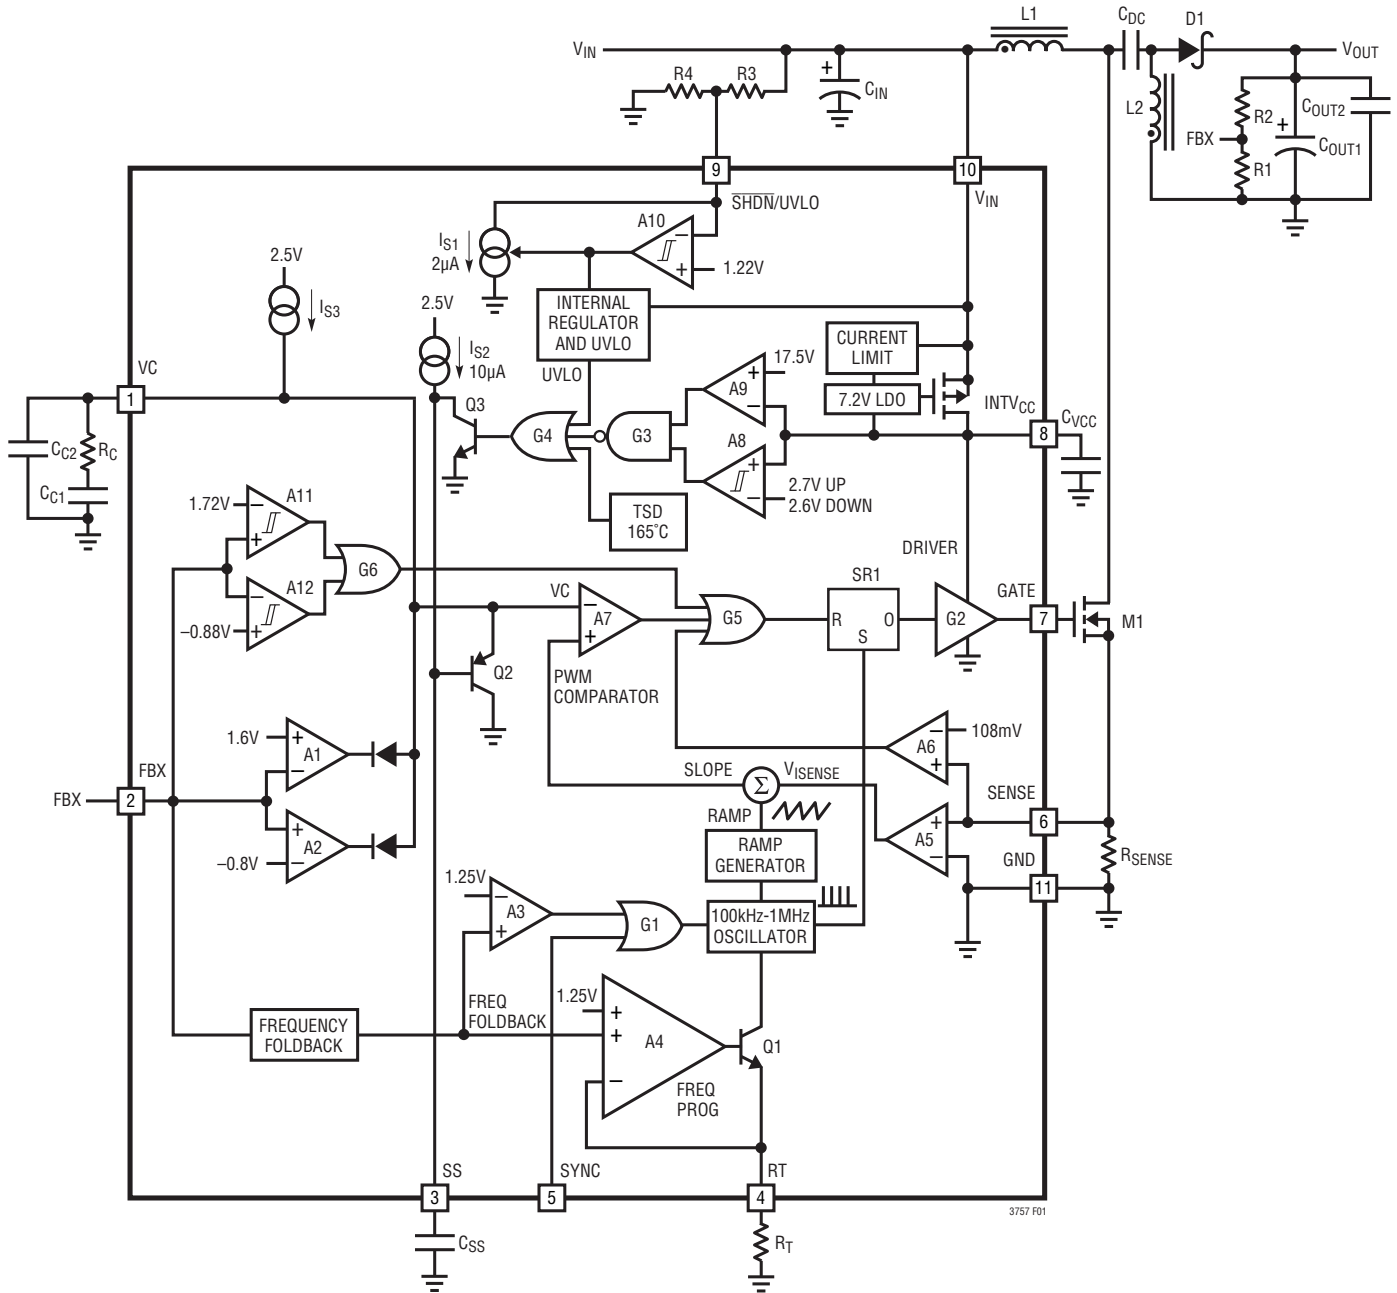

Figure 1. LT3757 Block Diagram Working as a SEPIC Converter
The LT3757 uses a fixed frequency, current mode control scheme to provide excellent line and load regulation. Operation can be best understood by referring to the Block Diagram in Figure 1.
The LT3757 is capable of generating either positive or negative output voltage with a single FBX pin. It can be configured as a boost, flyback or SEPIC converter to generate positive output voltage, or as an inverting converter to generate negative output voltage. When configured as a SEPIC converter, as shown in Figure 1, the FBX pin is pulled up to the internal bias voltage of 1.6V by a voltage divider (R1 and R2) connected from  $V_{OUT}$  to GND. Comparator A2 becomes inactive and comparator A1 performs the inverting amplification from FBX to VC. When the LT3757 is in an inverting configuration, the FBX pin is pulled down to
The purpose of this current is to allow the user to program the rising hysteresis. The Block Diagram of the comparator and the external resistors is shown in Figure 1. The typical falling threshold voltage and rising threshold voltage can be calculated by the following equations:
An internal, low dropout (LDO) voltage regulator produces the 7.2V INTVCC supply which powers the gate driver, as shown in Figure 1. If a low input voltage operation is expected (e.g., supplying power from a lithium-ion battery or a 3.3V logic supply), low threshold MOSFETs should be used. The LT3757 contains an undervoltage lockout comparator A8 and an overvoltage lockout comparator A9 for the INTVCC supply. The INTVCC undervoltage (UV) threshold is 2.7V (typical), with 100mV hysteresis, to ensure that the MOSFETs have sufficient gate drive voltage before turning on. The logic circuitry within the LT3757 is also powered from the internal INTVCC supply.
The choice of operating frequency may be determined by on-chip power dissipation, otherwise it is a trade-off between efficiency and component size. Low frequency operation improves efficiency by reducing gate drive current and MOSFET and diode switching losses. However, lower frequency operation requires a physically larger inductor. Switching frequency also has implications for loop compensation. The LT3757 uses a constant-frequency architecture that can be programmed over a 100kHz to 1000kHz range with a single external resistor from the RT pin to ground, as shown in Figure 1. The RT pin must have an external resistor to GND for proper operation of the LT3757. A table for selecting the value of RT for a given operating frequency is shown in Table 1.
The output voltage ( $V_{OUT}$ ) is set by a resistor divider, as shown in Figure 1. The positive and negative  $V_{OUT}$  are set by the following equations:
The LT3757 addresses this mechanism with the SS pin. As shown in Figure 1, the SS pin reduces the power MOSFET current by pulling down the VC pin through Q2. In this way the SS allows the output capacitor to charge gradually toward its final value while limiting the start-up peak currents. The typical start-up waveforms are shown in the Typical Performance Characteristics section. The inductor current  $I_L$  slewing rate is limited by the soft-start function.
component values and the operating conditions (including the input voltage, load current, etc.). To compensate the feedback loop of the LT3757, a series resistor-capacitor network is usually connected from the VC pin to GND. Figure 1 shows the typical VC compensation network. For most applications, the capacitor should be in the range of 470pF to 22nF, and the resistor should be in the range of 5k to 50k. A small capacitor is often connected in parallel with the RC compensation network to attenuate the  $V_C$  voltage ripple induced from the output voltage ripple through the internal error amplifier. The parallel capacitor usually ranges in value from 10pF to 100pF. A practical approach to design the compensation network is to start with one of the circuits in this data sheet that is similar to your application, and tune the compensation network to optimize the performance. Stability should then be checked across all operating conditions, including load current, input voltage and temperature.